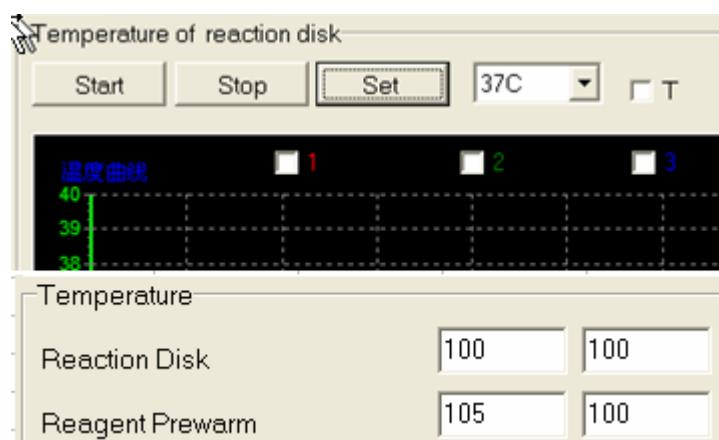

Figure 9-12 Temperature Adjustment Screen
- 2) On the screen as shown in Figure 9-12, select Path 1 (the effect of the other two paths is equivalent to that of Path 1), click “Temperature Acquisition”, and view the difference between the temperature indicated on the curve and the temperature measured with the thermometer. Input the value equal to the temperature difference \*10 in “Reaction Tray Correction Parameter” on the screen as shown in Figure 9-12. Adjust the temperature indicated in this way, ensure the indicated temperature are the same to the measure temperature.. A simple method is: Write 101 and check whether the temperature indicated on the curve is higher or lower; if higher, decrease it; if lower, increase it. For example, if 120 is written, increase 20; if 20 is written, decrease 20.